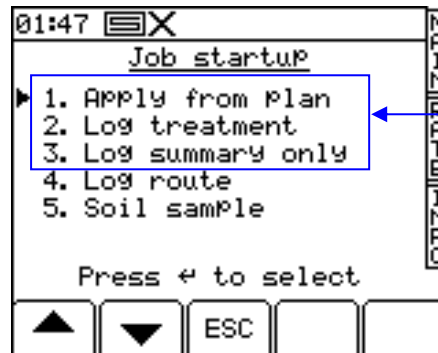

Figure 42. Startup page
2. Press the START key to select the JOB STARTUP page (Fig.42).